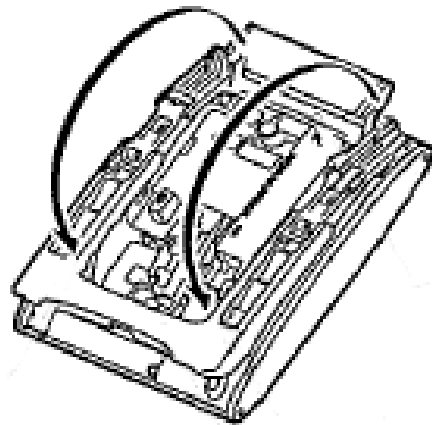

Figure 5-64 Separating the Tilt Legs
2. Separate the Tilt Legs and place them flat against the telephone. See Figure 5-64 Separating the Tilt Legs.